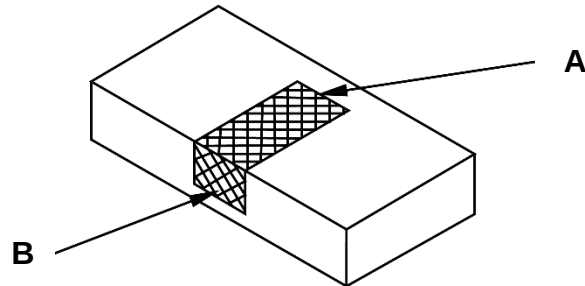

Fig. 1
- 1** Figure 1 below shows a marking out of a wood joint.